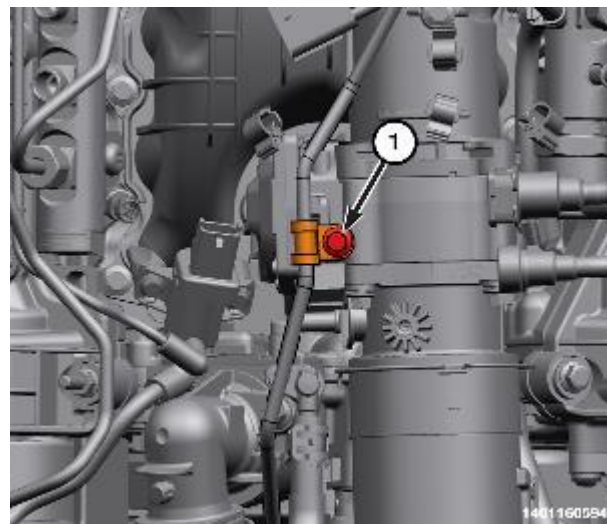

Figure 162 – Pipe Bolt
28. Remove the bolt (1) securing the fuel tube (Figure 162).
53. Install the bolt (1) securing the fuel tube and tighten to 11 N·m (8 Ft. Lbs.) (Figure 162).